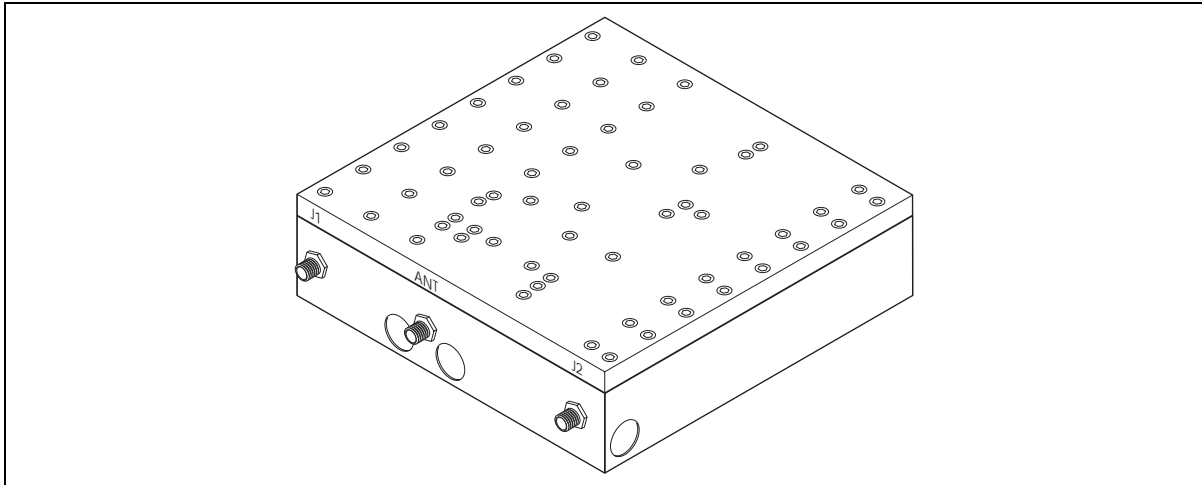

Figure 2-1. 2.4 GHz Diplexer
2. The RF unit may be identified by following the connection from the port labeled **IF** on the rear of the RF converter. This connection terminates at the RF unit. The diplexer may be identified by following the connection from the **ANT** port on the rear of the RF converter. This connection terminates at the diplexer, illustrated in **Figure 2-1**.